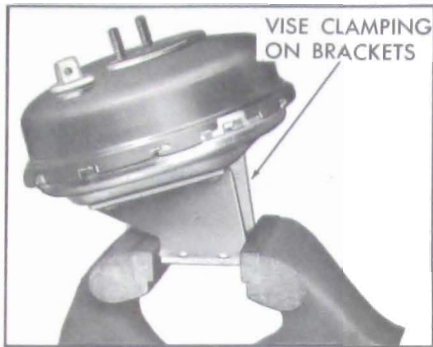

Figure 9-19—Power Brake Unit
4. Mount power brake unit in vise, clamping mounting brackets as shown in Figure 9-19.